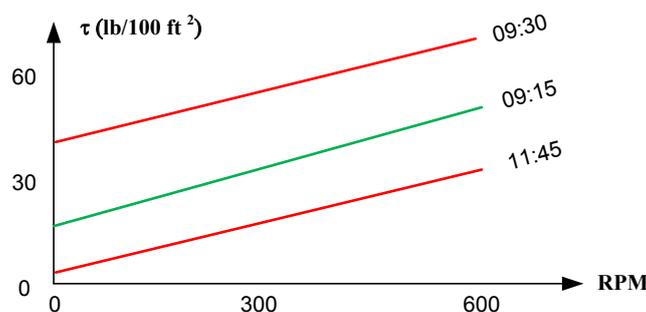

Figure 1-8a: The rheology of the mud at 3 time points
b) Rheology monitoring. First we plot the evolution of the rheology vs. time, as shown in Figure 1-8a.